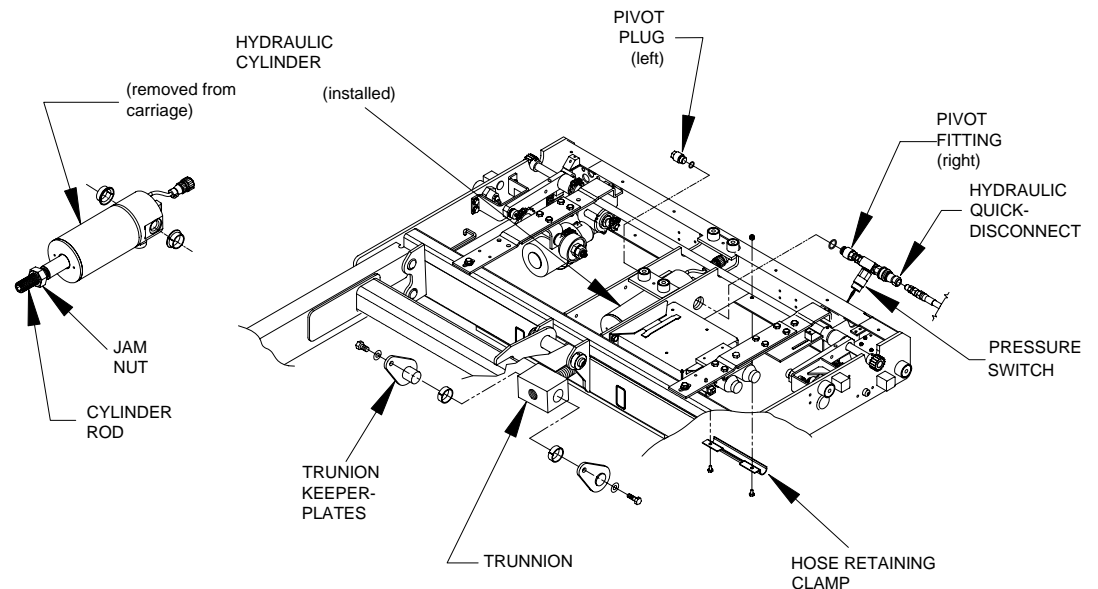

FIGURE 4-24: HYDRAULIC CYLINDER AND RELATED COMPONENTS
- 6) **Refer to Figure 4-24.** Unfasten trunnion keeper-plates from lifting frame, and remove keeper-plates from trunnion. Remove bushings from trunnion.
- 1) **Refer to Figure 4-24.** Assemble jam nut and trunnion onto hydraulic cylinder rod. Install two cylinder pivot bushings into carriage frame (with flanges to inside of frame).
- 2) Refer to **Figures 4-24** and **4-25**. Remove hose retaining clamp from bottom of carriage. Remove hose clamp behind pull box (inside enclosure).
- 7) **Refer to Figures 4-24** and **4-25**. Install hose retainer clamp on bottom of carriage. Install hose clamp behind pull box (inside enclosure).